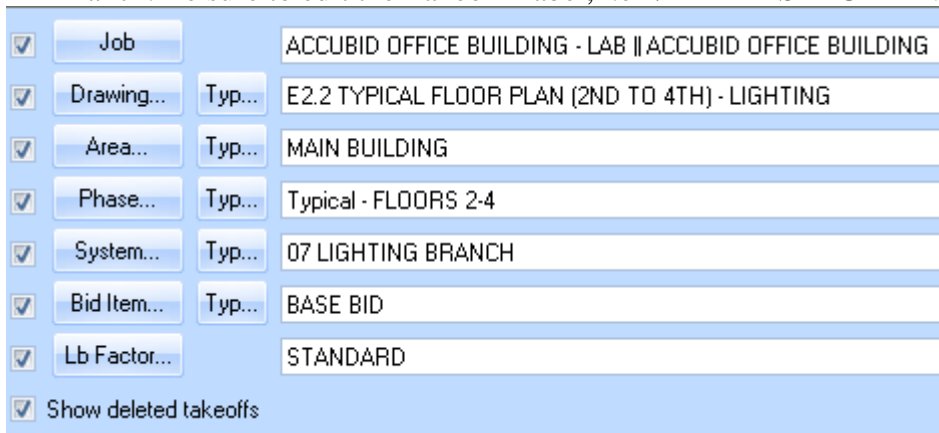

Figure 6
17. Change the Breakdown as shown in Figure 6 and repeat the steps for the TYP Floors 2-4 Lighting Branch. Be sure to edit the Takeoff Label, i.e 1/2" EMT STRUT MNT 4#12 – TYP FLRS 2-4 LTG